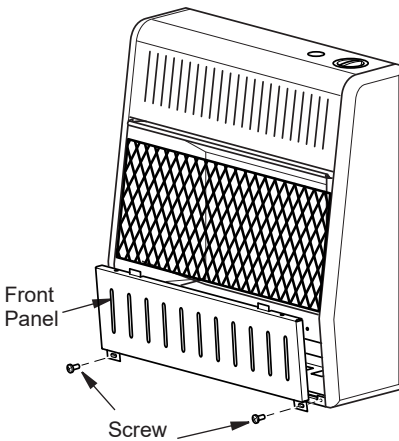

Figure 5 - Removing Front Panel Of Heater
2. Pull bottom of lower front panel forward, then down (see Figure 5).